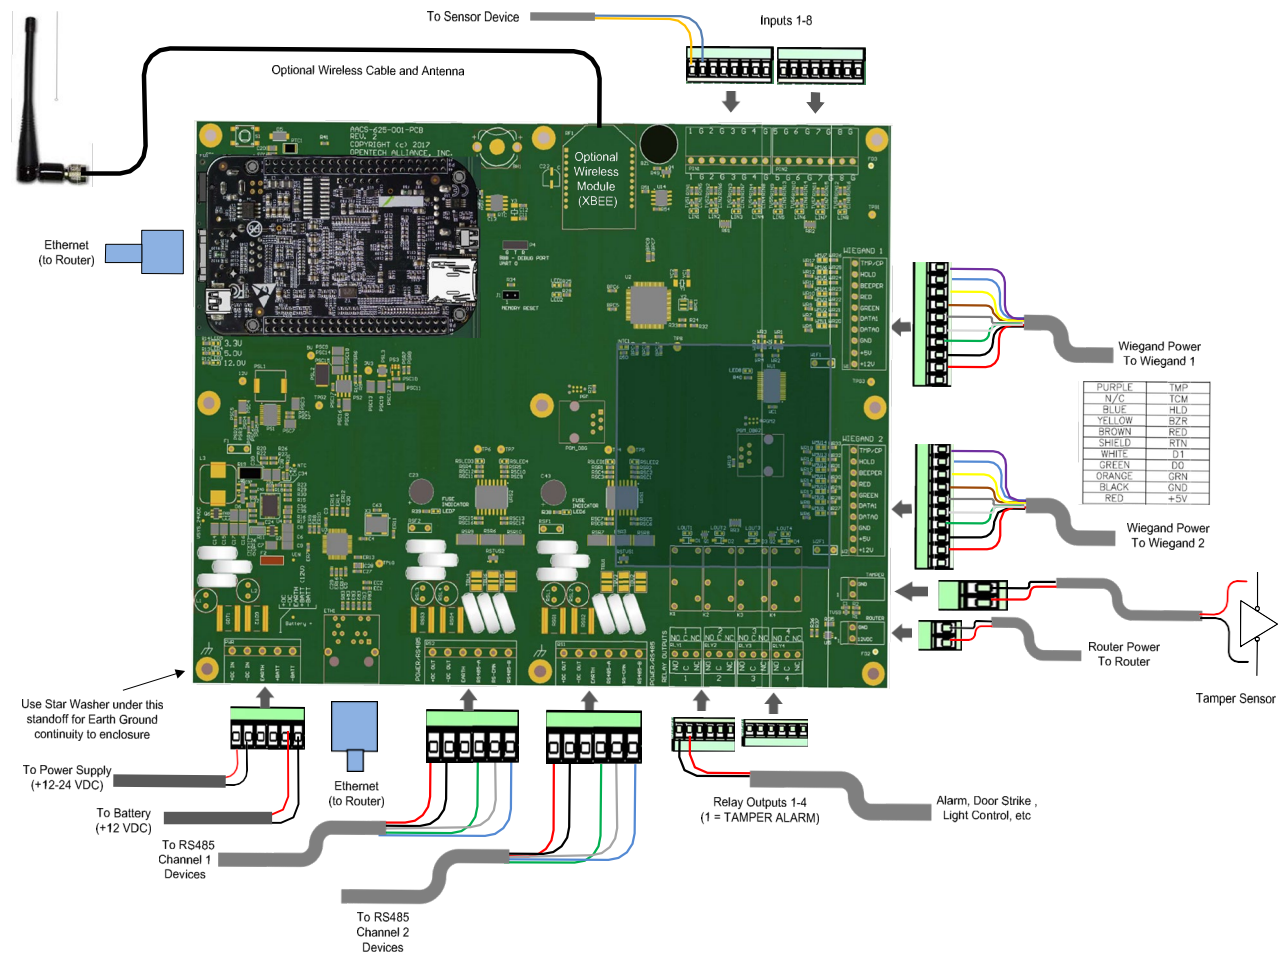

Figure 4 – Gateway Wiring Connections
**Incoming PWR:** Incoming power (15-24VDC) is connected to the connector at the bottom left-hand corner of the board. Figure 4 "To Power Supply". A 24V 5A DC supply is provided by default. One suggested P/N is SDI120-24-U-P51 by CUI. This is sufficient for systems having up to 6 keypads. If more devices are required a larger DC supply would be required. The DC supply is to be mounted separately outside the enclosure.